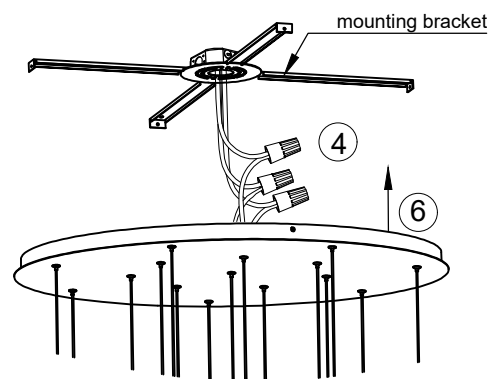

Fig. 3
- Place the fixture over the mounting bracket. Install the screws on the sides of the fixture to secure into the ceiling. (Fig. 3)